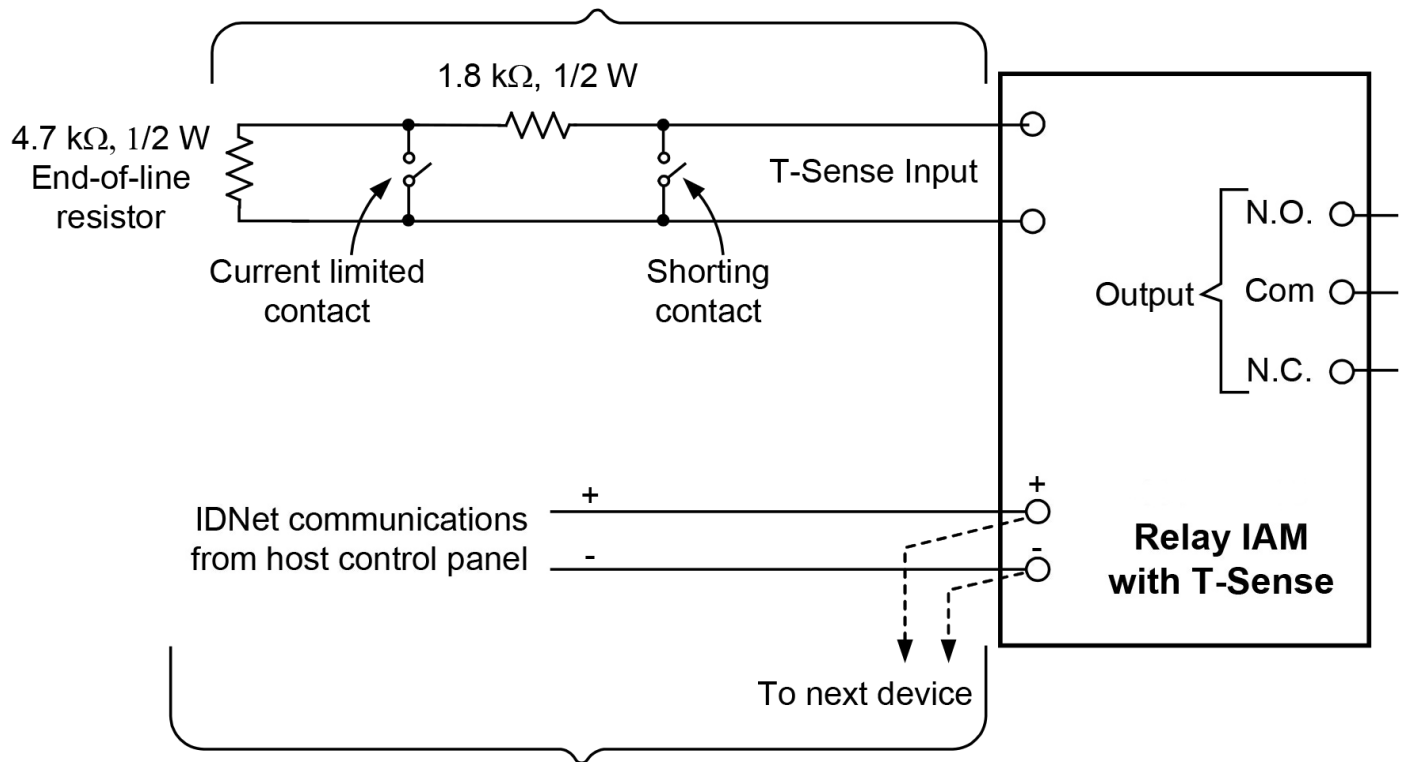

Fig 2: Wiring reference for the A4090-9118 Relay IAM with T-Sense
- A4090-9118 Relay IAM with T-Sense is illustrated in Figure 2.